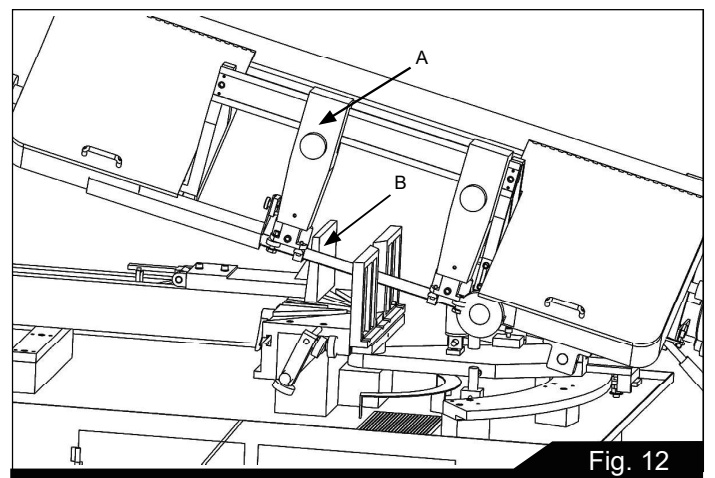

Fig. 12
5. Make sure the left blade guide bracket (A) is adjusted as close as possible to the left vise jaw (B) Fig. 12.
8. Proceed to cut throughout the workpiece, as shown in Fig. 12. Shut the machine off upon completion of cut.